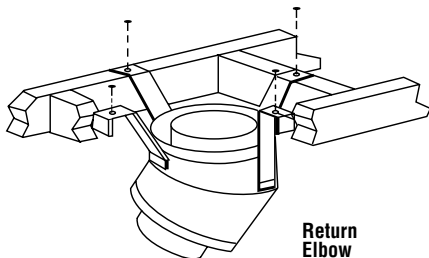

Figure 42
**Step 5.** Secure support straps to framing members by nailing under tension in sheer (Figure 42).